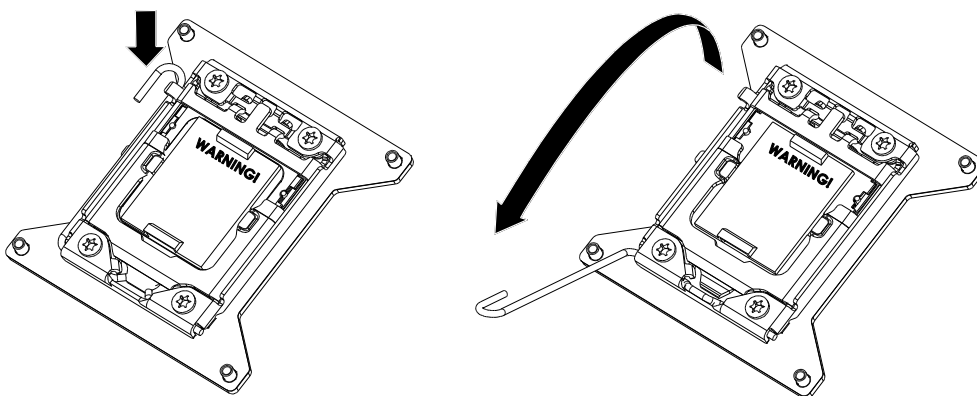

Figure 2-7 Schematic Diagram of Releasing CPU Lock Lever
Step 2: Refer to Figure 2-7 to release the CPU lock lever.